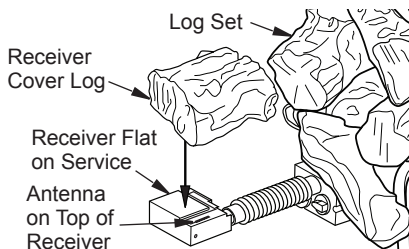

Figure 12 - Receiver and Cover Log
1. Place receiver into position beside chassis in fireplace. Receiver should lay flat on floor of fireplace (see Figure 12).
2. Place receiver cover log over receiver. This will hide receiver from view (see Figure 12).